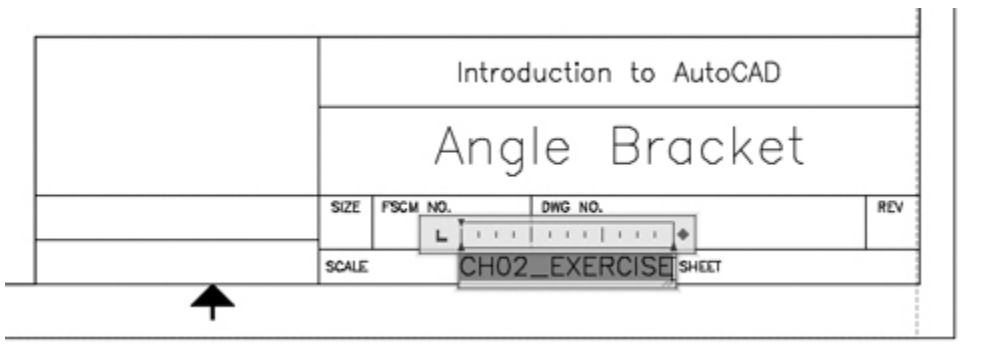

Figure 2-57
- 8** Choose **Close Text Editor** to end the command. The drawing file name CH02_EXERCISE appears in the title block (see Figure 2-57). The field text is highlighted to indicate that it is a field value.